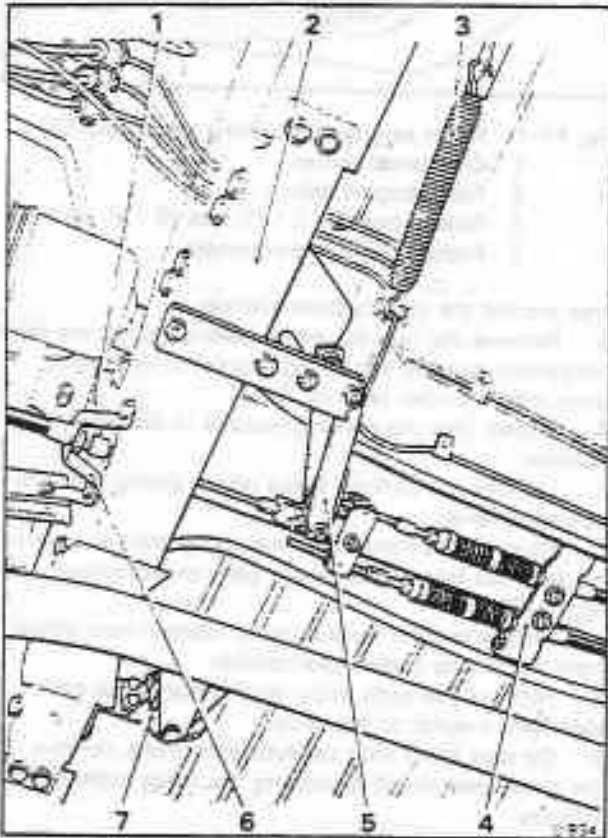

Fig. F1-2 Centre crossmember and parking brake linkage
3. Remove the two mounting bolts securing the front vibrashock exhaust mounting bracket to the centre body crossmember (see fig. F1-2).
6. Remove the front cable mounting bracket situated on the front face of the centre body crossmember (see fig. F1-2).